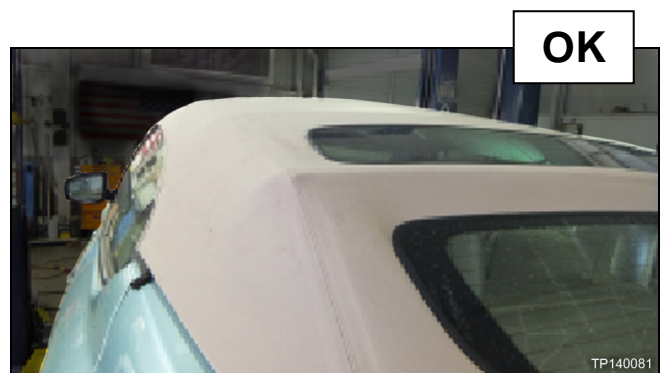

Figure 1a
- Figure 1a shows a soft top with proper fit.